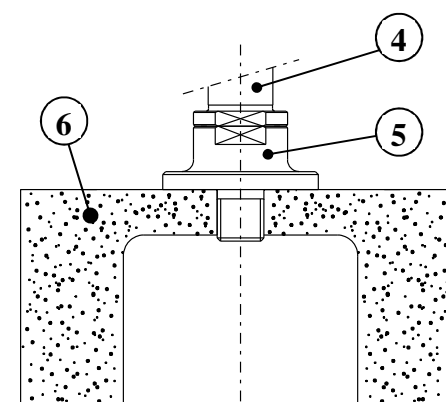

Fig.3
- **assembly Fig.3** → Lock in place the wheel Item ⑥, then unscrew the wheel-holder plate Item ⑤ (23 open-end wrench).
- **assembly Fig.3** - Lock in place the wheel Item ⑥, then screw on the wheel-holder plate Item.⑤ (23 open-end wrench).